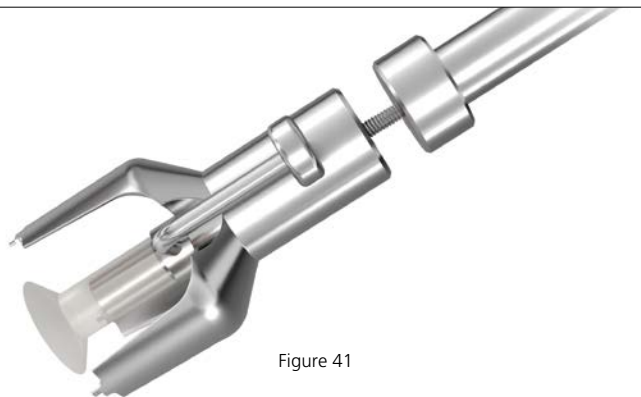

Figure 41
If it is necessary to remove a CERAMAX ceramic insert from a PINNACLE shell, thread the extractor handle onto the appropriate size alternative bearing (AB) extractor (each shell size has a specific extractor; e.g., a 54 mm shell uses a 54 mm extractor) (Figure 41).